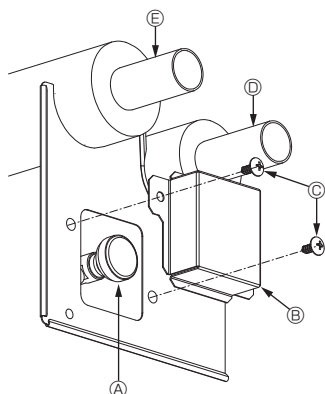

Fig. 6-1
6.2.2. The air vent valve of indoor unit (Fig. 6-1)
- ① Remove the air purge valve cover.
- ② Turn the knob on the air purge valve to release the air.
- ③ Air purge valve
- ④ Air purge valve cover (Tightening torque: $1.3 \pm 0.3 \text{ N} \cdot \text{m}$)
- ⑤ Screw
- ⑥ Outlet (To HBC/optional VALVE KIT)
- ⑦ Inlet (From HBC/hydro unit)